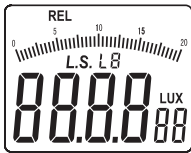

Figure 3-1
- Press and hold REL/PEAK key for a short time (composite key for relative/ peak value measurement), "REL" will appear on the top left position of the LCD interface (as shown in figure 3-1), and the device will enter the relative value measurement mode.